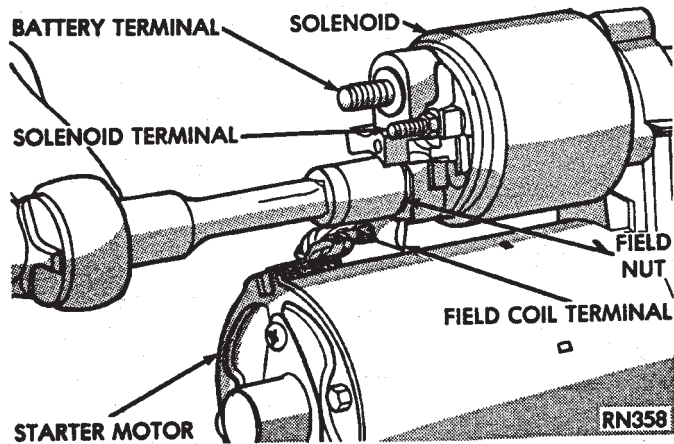

Fig. 14 Field Terminal Nut
(1) Remove field terminal nut (Fig. 14).